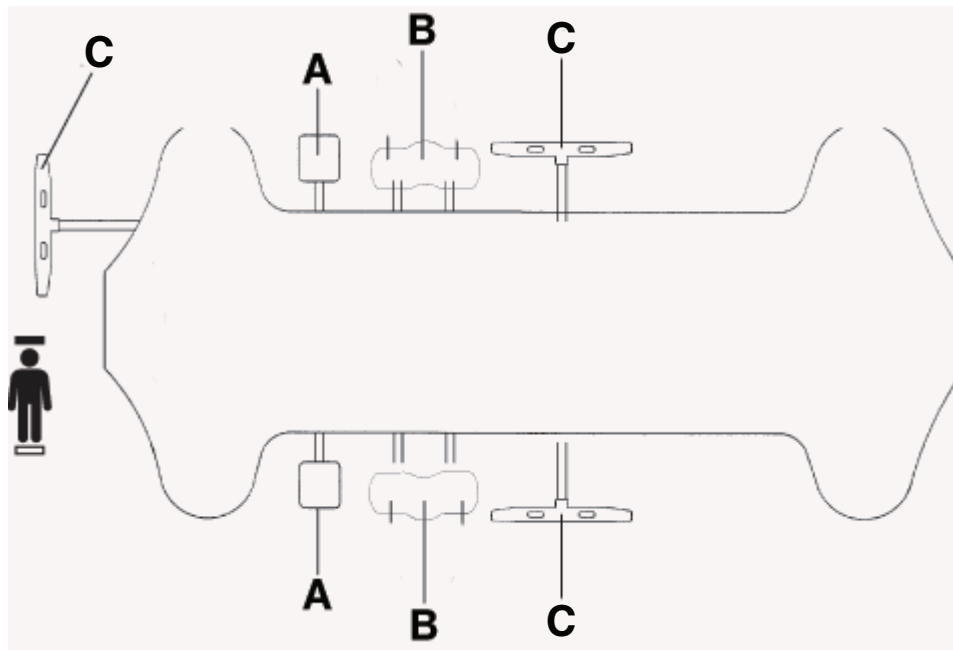

Figure 3 – Raising or lowering the litter
To raise the litter, press down on the pump pedal (A) until you achieve the desired height (Figure 3).
To lower the head end of the product, push down on the side of the uni-lower pedal (B) closest to the head end (Figure 3).
To lower the foot end of the product, push down on the side of the uni-lower pedal (B) closest to the foot end (Figure 3).